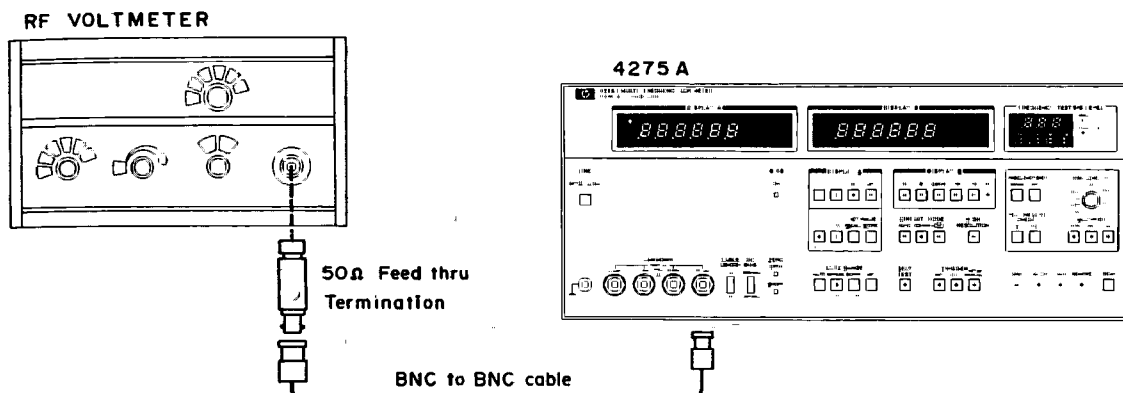

Figure 5-4. Test Signal Level Flatness Adjustment Setup.
1. Connect a 50Ω feed through termination between 4275A UNKNOWN H_{CUP} terminal and RF voltmeter input using a BNC to BNC cable. See Figure 5-4.